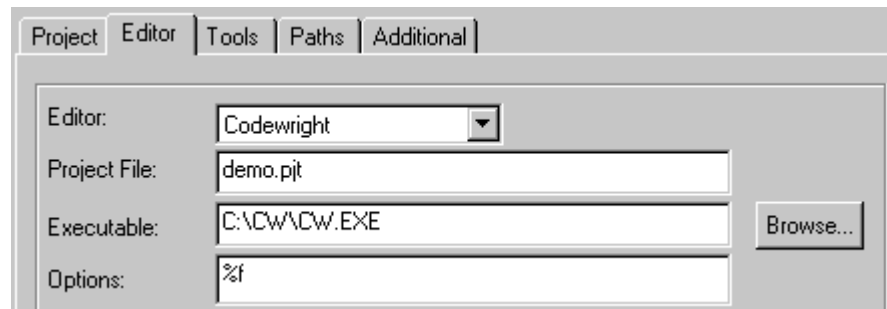

Figure 4-3. Editor Configuration for Codewright
- The **Options** edit box contains options used for error feedback in the MCUez assembler and linker. After selecting Codewright, the shell automatically enters the appropriate options. **Figure 4-3** is a typical setup for Codewright.